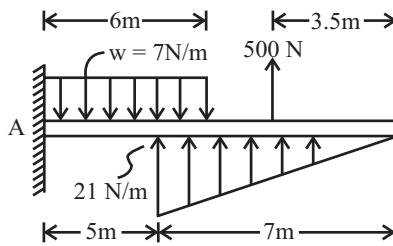

Fig. 1
- (a) Compute the simplest resultant force for the loads shown acting on the cantilever beam in Fig. 1. What force and moment is transmitted by this force to supporting wall at A?